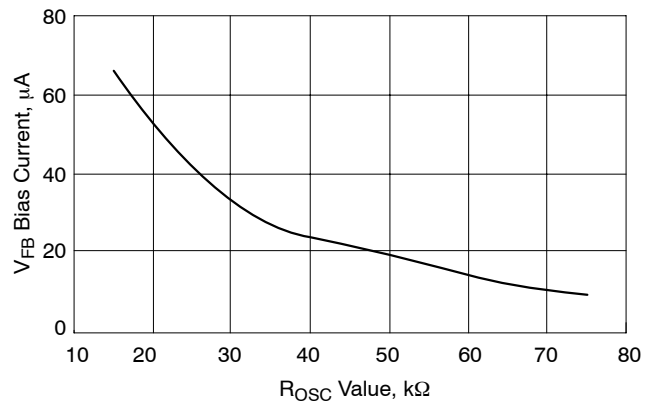

Figure 4. VFB Bias Current vs. ROSC Value
2. The V_{FB} Bias Current changes with the value of R_{OSC} per Figure 4.
To set the no-load positioning a resistor (R9) is placed between the output voltage and V_{FB} pin. The V_{FB} bias current will develop a voltage across the resistor to decrease the output voltage. The V_{FB} bias current is dependent on the value of R_{OSC} . See Figure 4 on the datasheet.